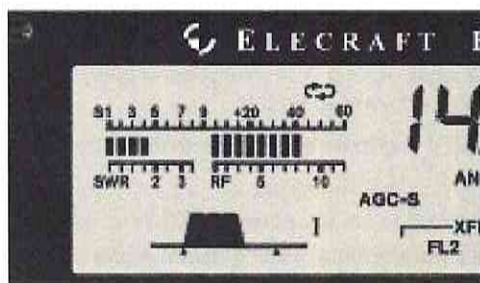
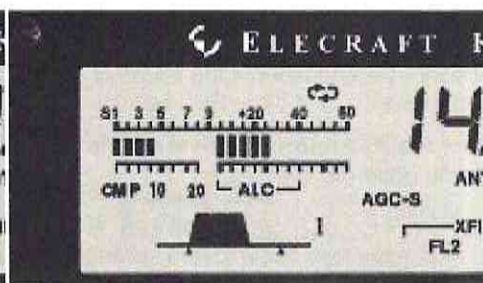

Figure 5-5. SWR/RF display.
Figure 5-6. CMP/ALC display.
You can set up your microphone gain and compression level settings after setting your voice monitoring level. Once you have done this, you should not have to change them unless you change microphones. There are two bar graph displays. Normally, you will show the **SWR/Rf** display as shown in Figure 5-5. When setting the microphone gain and compression, you will use **CMP/ALC** display in Figure 5-6.
- Tap **[KYR-SPT/MIC ⏏]** to display the **CMP/ALC** display shown in Figure 5-6.
- Tap **[KYR-SPT/MIC ⏏]** to restore the **SWR/RF** display shown in Figure 5-5.